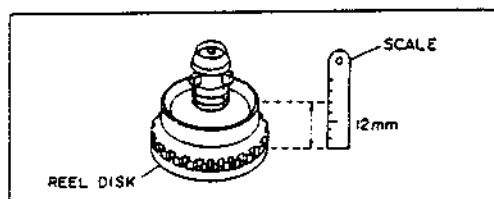

Fig.1-4-4
- 2) Add or remove washers at the bottom of the reel disk to adjust for 12 mm. See Fig.1-4-4